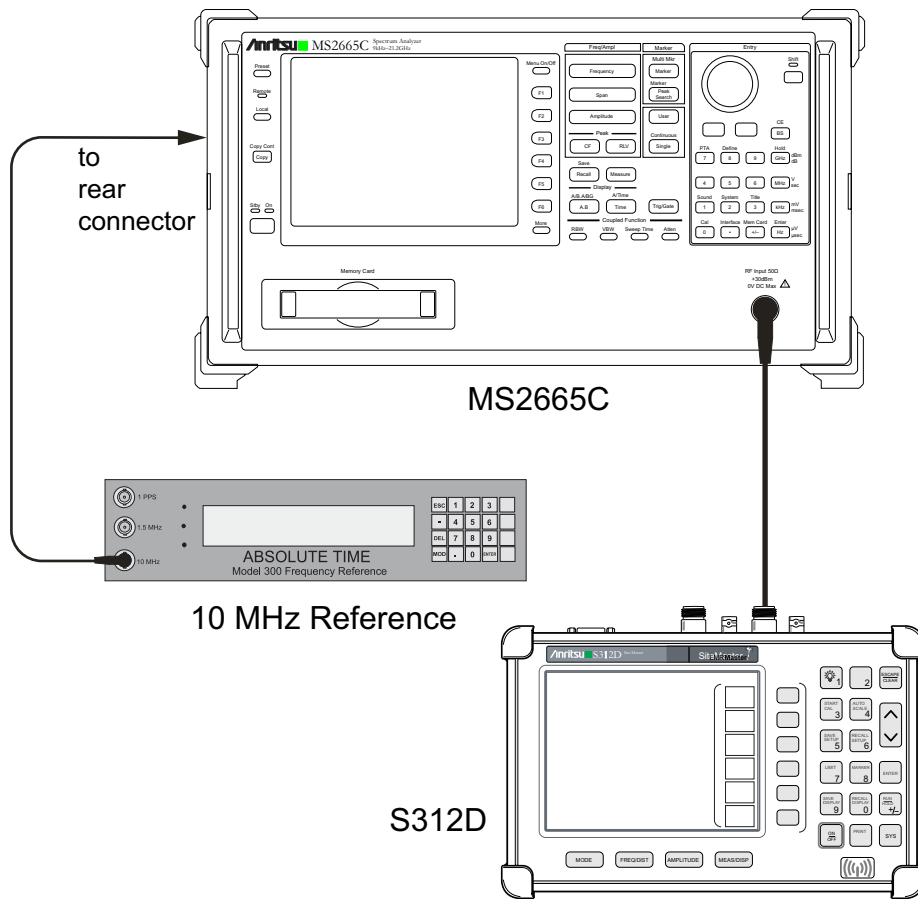

Figure 2-1. VNA Frequency Accuracy Test Setup
1. Connect a 10 MHz Reference signal to the 10 MHz STD Ref In of the Spectrum Analyzer as shown in Figure 2-1.